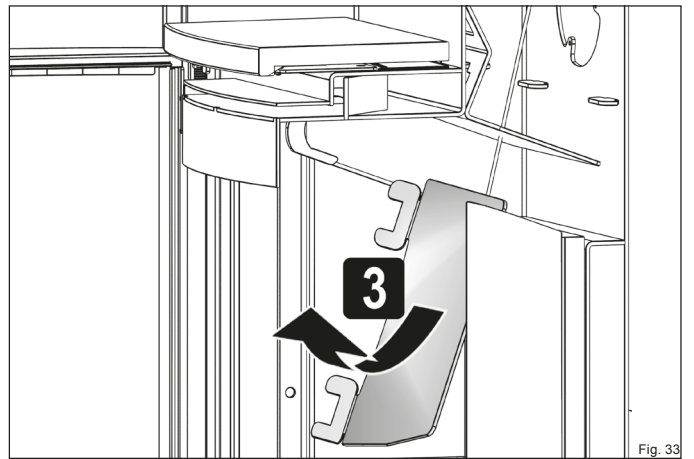

Fig. 33
- ▶ Remove the baffle plate through the back opening (Fig. 33).